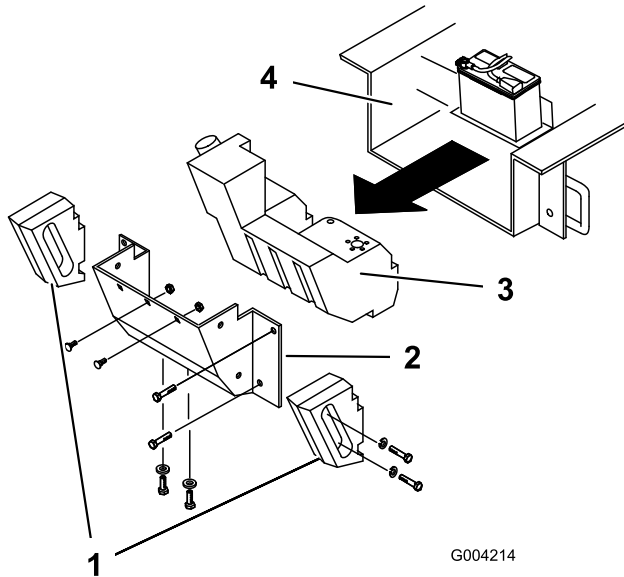

Figure 64
Using a flashlight, open the hood and inspect the area under the engine regularly. When the debris is 2.5 to 5 cm (1 to 2 inches) deep, complete the following procedure (refer to Figure 64 throughout this procedure):
5. Remove the bolts, washers, and lock washers securing the 2 side weights, removing the weights (Figure 64).
8. Remove the 6 nuts and bolts securing the rear panel; remove the panel (Figure 64).
10. Slide the fuel tank to the rear (Figure 64).
17. Slide the fuel tank part way into the chassis (Figure 64).
23. Replace the rear panel and secure it with the 6 bolts and nuts removed previously (Figure 64).
25. Install the side weights with the bolts, washers, and lock washers removed previously (Figure 64).